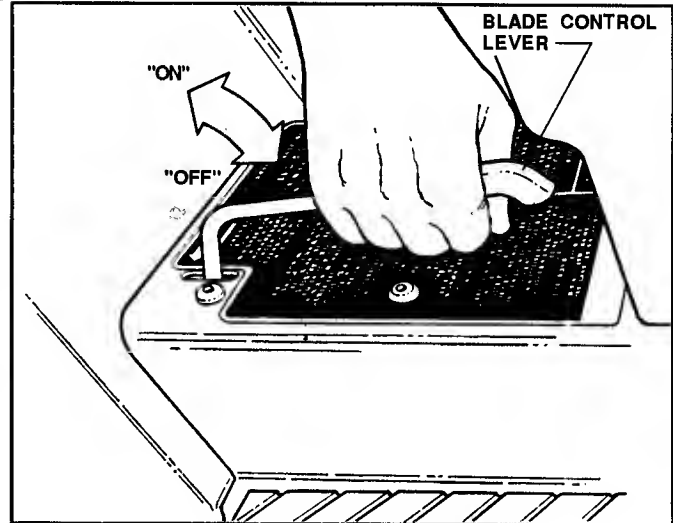

FIGURE 4
MOWER BLADE: *STOP MOWER BLADE* by pushing BLADE CONTROL lever downward to "OFF". See Figure 4.
1. PUSH BLADE CONTROL LEVER downward to "OFF" position (Fig. 4) and fully depress the CLUTCH/BRAKE PEDAL (Fig. 7), so that Safety Interlock System will allow engine to start.